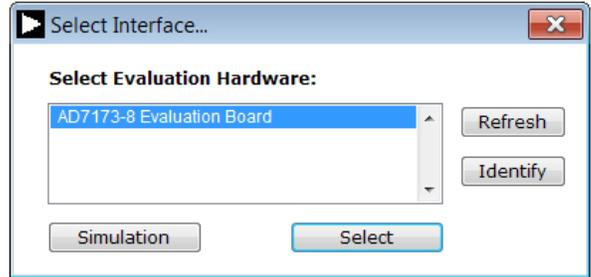
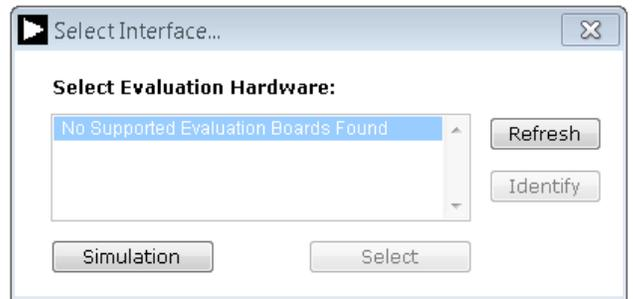

Figure 13. AD7173-8 Evaluation Board Selection
Figure 14. Evaluation Board Selection, No Board Connected
- The dialog box in Figure 13 appears, select **AD7173 Evaluation Board**. The main window of the software box displays as shown in Figure 16.
- If the **EVAL-AD7173-8SDZ** evaluation system is not connected to the USB port via the **SDP-B**, when the software is launched the **Select Interface** dialog box appears (see Figure 14). Connect the evaluation board to the USB port of the PC, wait a few seconds, click **Refresh** and the option shown in Figure 13 appears.
The Evaluation Mode indicator displays the current evaluation mode. To switch between modes, click the Select Product button and the dialog box shown in Figure 13 appears.